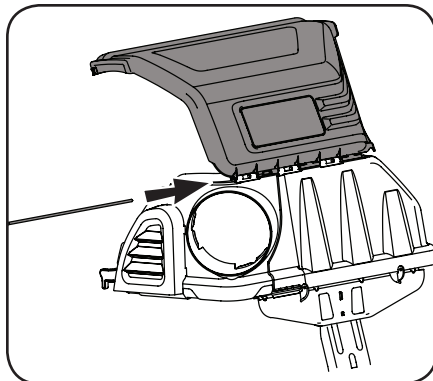

Figure 4-8
4. From the front of the assembly, line up the tabs on the upper grass catcher cover with the tabs at the front of the upper chute support (931-05474B). Slide the hinge pin through the slots beginning at the right side upper chute support of the mounting tabs, as in Figure 4-8. Push the pin (711-06701) all the way in until it reaches the end-stop.